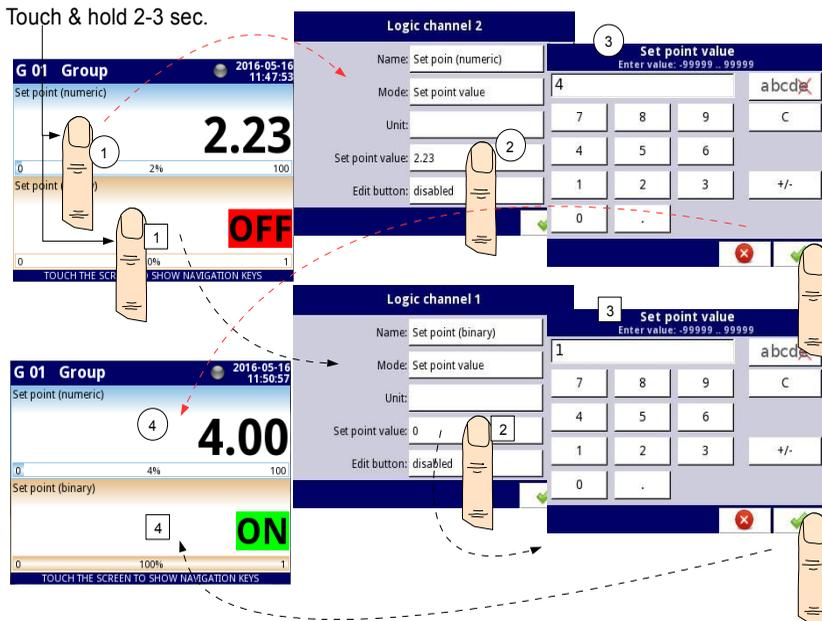

Fig. 7.51. Configuration of the value for Logical channel in **Set point value** for the disabled button
- **disabled** - the button is disabled on the display, in this case the data source of the logical channel will be the value set in the **Set point value** parameter, (see **Fig. 7.51**),